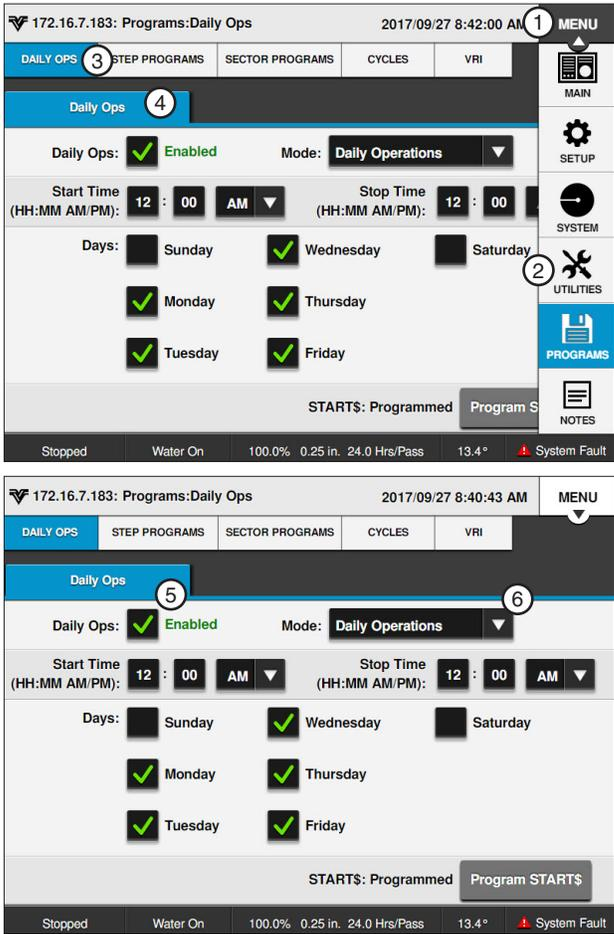

Figure 89-1 1. Menu 4. Daily Ops
1. Push **Menu**, **Programs** and **Daily Ops** to display the Daily Ops screen. Refer to Figure 89-1.